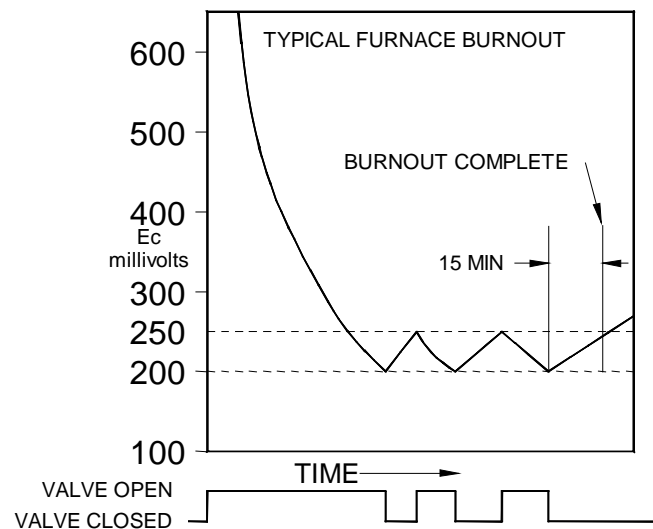

Fig. 5
**Furnace conditioning:** The destructive effect of carbon and temperature at high levels is conceded by manufacturers who normally instruct in the art of “*gentle burnout*”. SSi engineers have developed an even gentler routine that shortens or eliminates the time required to “*season*” the furnace after a burnout has been completed. The recommended routine for burnout is to set the temperature to 1500°F (815°C), discontinue the carrier gas, and start to add air at a rate that will not cause a large increase in temperature. A flow rate of about 10% of the normal flow of carrier gas has been found adequate. Eventually, the **Gold Probe™** output will fall to 200 mV. At this point, discontinue the air and observe the probe output. If the output rises above 250 millivolts in less than 15 minutes, turn the air on and repeat the routine until the mV level remains below 250 for more than 15 minutes. Burnoff is complete. See Fig.5.